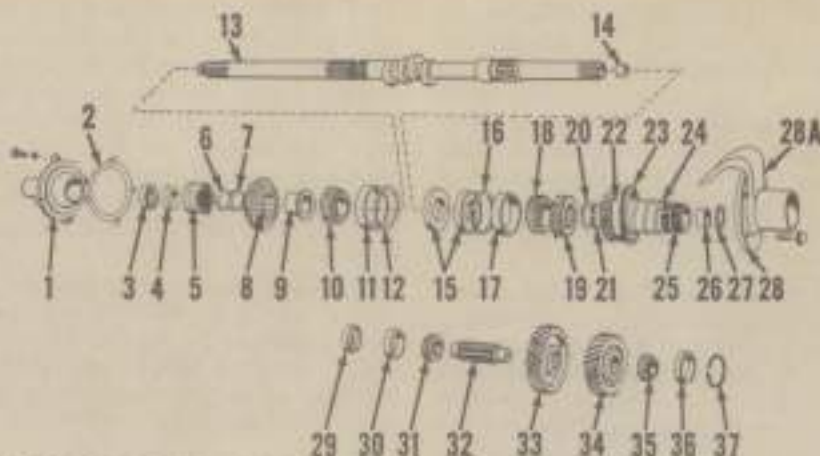

Fig. 104—Exploded view of D-14 and D-15 clutch shaft and associated parts. Lip seals (2 & 4) face toward rear.
To remove the "Power Director" outer clutch shaft, it is necessary to split the torque tube from the transmission housing as outlined in paragraph 172; then proceed as follows: Remove snap ring (27—Fig. 103), unbolt and remove retainer (28) and oil transfer tube (28A). Outer shaft (25) can be withdrawn as the transfer tube is removed. After snap ring (21—Fig. 104) is removed, thrust washer (20) and drive gear (19) can be removed.
165. To remove the intermediate gears and shaft, it is first necessary to remove the PTO driven gear as outlined in paragraph 224; then proceed as follows: Remove snap ring (27—Fig. 103), then unbolt and remove retainer (28) and oil transfer tube (28A). Remove the plug (29—Fig. 104), then remove snap ring (37). As the shaft (32) is pressed or bumped